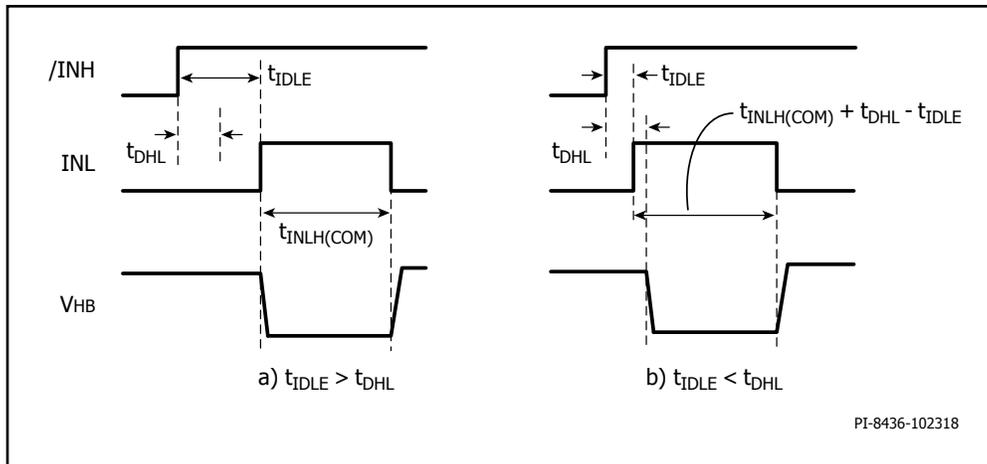

Figure 24. Minimum INL High Time Required for Device Internal High-Side Status Update a) $t_{IDLE} > t_{DHL}$ b) $t_{IDLE} < t_{DHL}$.
- Assumes control input /INH was high for an idling period of t_{IDLE} > t_{DHL}. The required minimum INL high time for internal communication increases by t_{DHL} - t_{IDLE} if t_{IDLE} < t_{DHL} (refer to Figure 24).